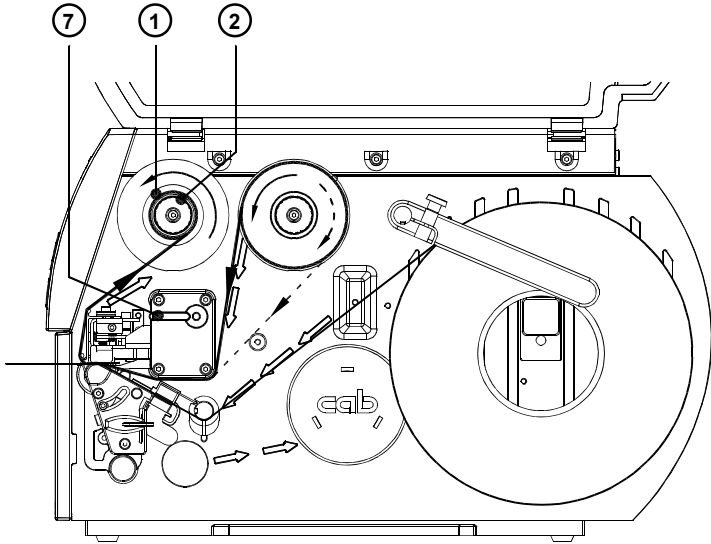

Fig. 7I Path of Transfer Ribbon
4. Slide a cardboard core (1) onto the ribbon take up hub (2). Clamp the core by rotating the knurled knob (3) counter-clockwise.
5. Feed the transfer ribbon along the path as shown in figure 7I and attach it to the cardboard core (1) using a piece of tape or a label.
6. Turn the ribbon take up hub (2) counter-clockwise until the ribbon is taut and without any wrinkles.
7. Rotate the printhead lever (7) counter-clockwise until it stops, thereby locking the printhead into position.